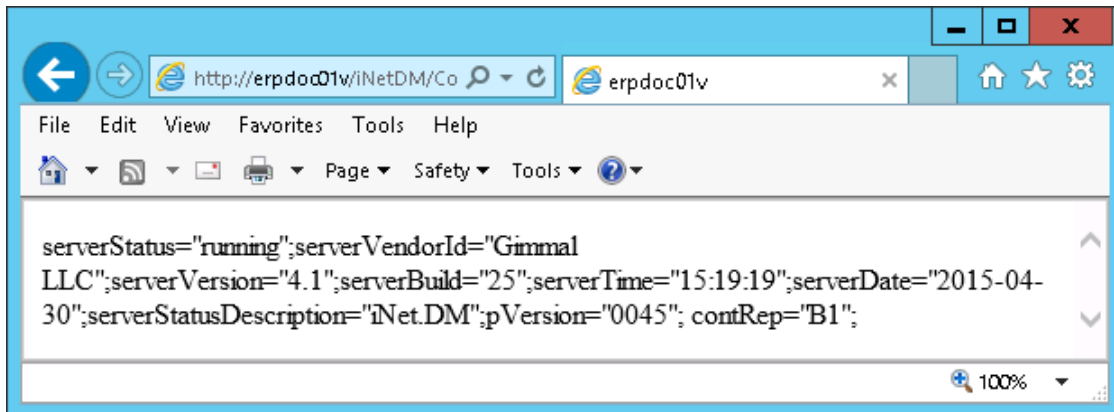

Figure 9-6 Sample Text
- 3. With a successful test, the sample text shown in Figure 9-6 Sample Text returns.